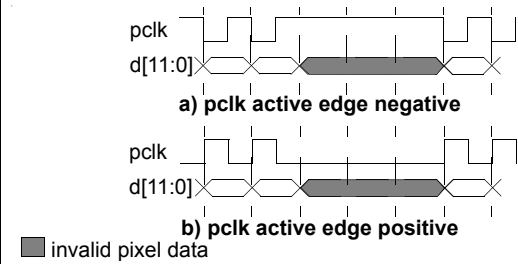

Figure 40. pclk in Data Ready Mode
- In data ready mode, the pixel clock output pin (*pclk*) will produce a pulse with a specified level every time valid pixel data appears on the digital video bus $d[11:0]$ as shown in Figure 40.